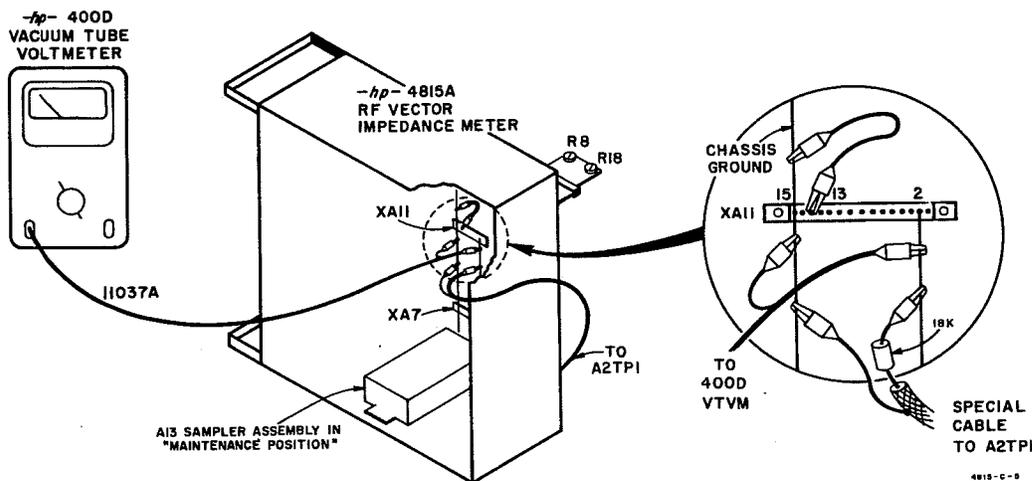

Figure 5-7. Setup for Bandpass Amplifier Adjustments
- b. Make connections as shown in Figure 5-7. Shielded cable to VTVM should be no longer than 3 ft to prevent amplifier instability.